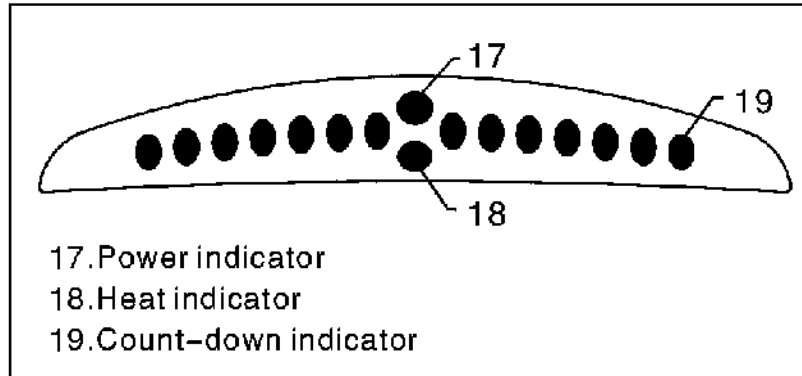

fig.4
3. LCD screen displays (see fig. 4)